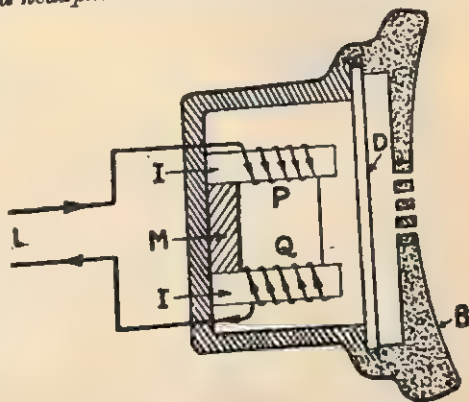

Fig. 12.27. Headphone.
(3) A magnetic thin disc kept near an electromagnet vibrates according to the variations or fluctuations of current in the electromagnet.
(4) **Headphone.** This instrument is also called an *ear piece* or a *receiver*. The function of a headphone is to convert electric energy into sound energy. Thus the function of a headphone is reverse to that of a microphone. A modern type of headphone is shown in Fig. 12.27.
A headphone or an earpiece of a telephone consists of a permanent magnet *M*. Two coils *P* and *Q* are wound over round soft iron pieces (*I*) as shown in Fig. 12.27. The soft iron pieces are fixed at the opposite ends of the magnet *M*. The two coils *P* and *Q* are connected in series so as to have currents in opposite directions. The two ends of the coil combination is connected to leads (*L*) for outer connections. There is a thin magnetic disc *D*, called the diaphragm, near the free faces of (*I*). When a person talks into a microphone at the other end of the telephone line, a fluctuating current flows in the coils *P* and *Q* of the *ear piece*, which results into the variation of the strength of magnetic field. This causes the electromagnet (*I*) to exert varying pull on the diaphragm *D*. The diaphragm *D* thus vibrates and reproduces a copy of the original sound waves which entered the microphone at the other end.